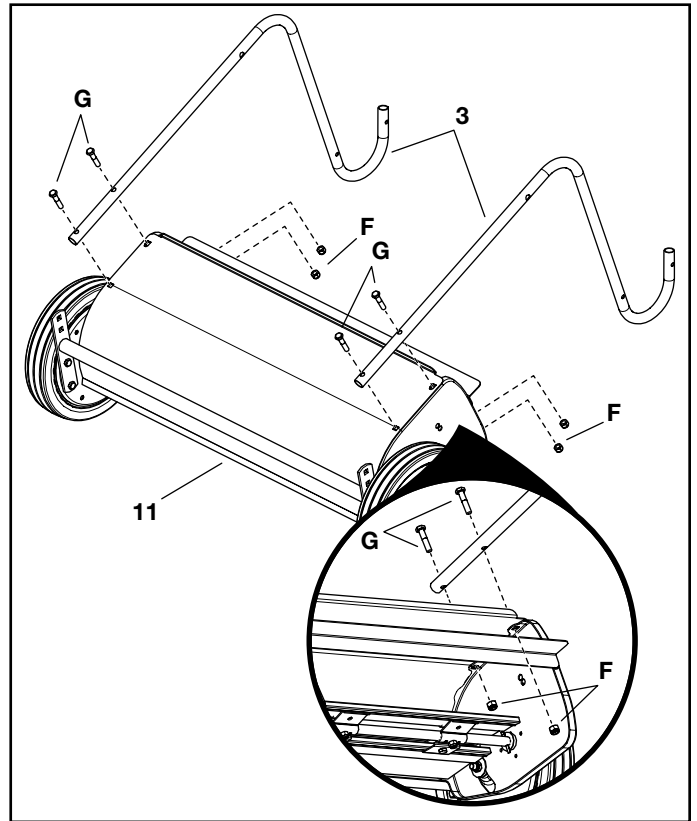

FIGURE 2
STEP 2: (SEE FIGURE 2)
- Attach the lower kickstand tubes (3) to the sweeper housing assembly (11) using four 5/16-18 x 1-1/2 G5 hex bolts (G) and .312-18 Nylock hex nuts (F).